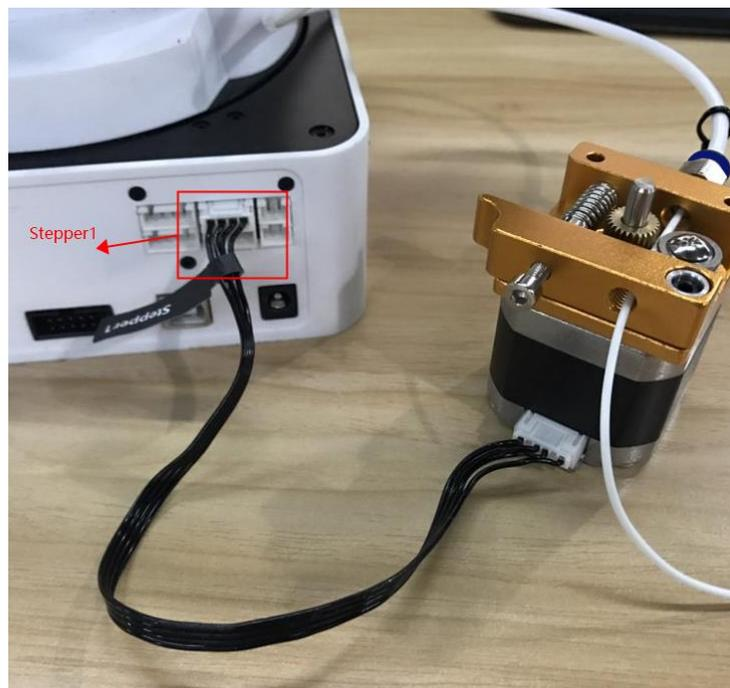

Figure 5.124 Connect with extruder
Step 6 Connect the extruder to the **Stepper1** interface on the back of the base with motor cable, as shown in Figure 5.124.